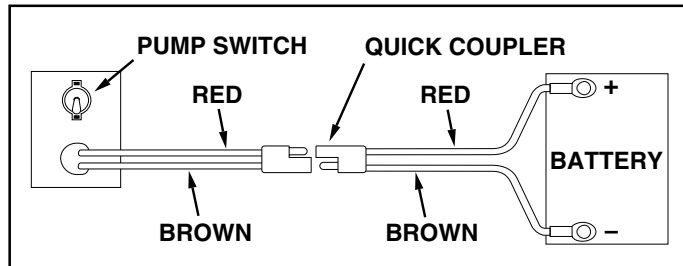

FIGURE 11
18. Attach the sprayer to the tractor hitch and connect the wiring to the tractor battery. The red wire must be connected to the positive post on the battery or to the "HOT" connection on a tractor switch or ammeter. The brown wire may be grounded or connected to the negative battery post. See figures 11 and 12.